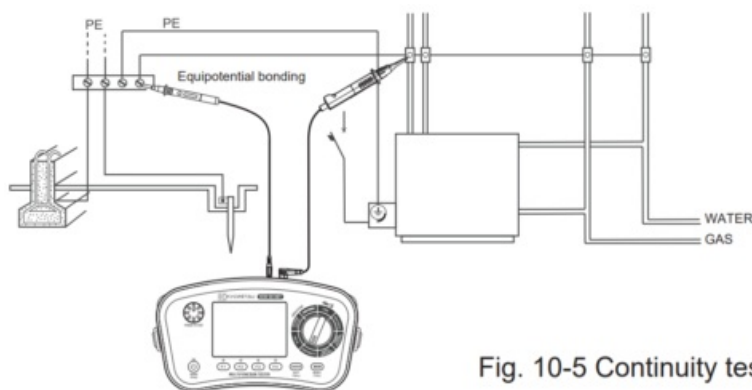

Fig. 10-5 Continuity test example
5. Confirm that the circuit isn't live and then connect the test leads. (See Fig. 10-5.)